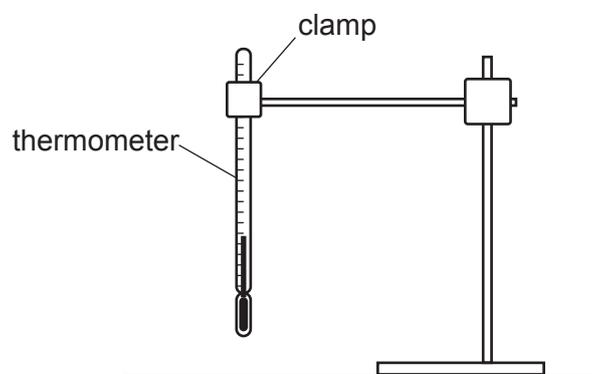

Fig. 2.1
1. The thermometer, clamp, boss and stand are to be set up for candidates as shown in Fig. 2.1. The thermometer bulb must be below the 100 cm^3 level of the beakers. Candidates must be able easily and safely to read temperatures up to 100°C and to move the thermometer into and out of the beakers.
Check that the apparatus is intact and is arranged as in Fig. 2.1.